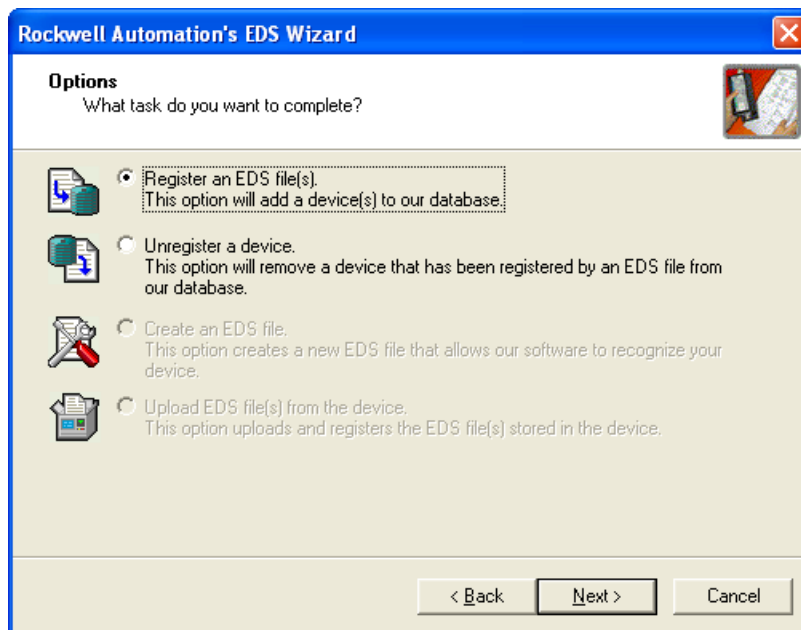

Figure 61: RSNetWorx Register EDS File
- a) Open RSNetWorx and navigate to Tools...EDS Wizard to begin the EDS registration process (see Figure 61).